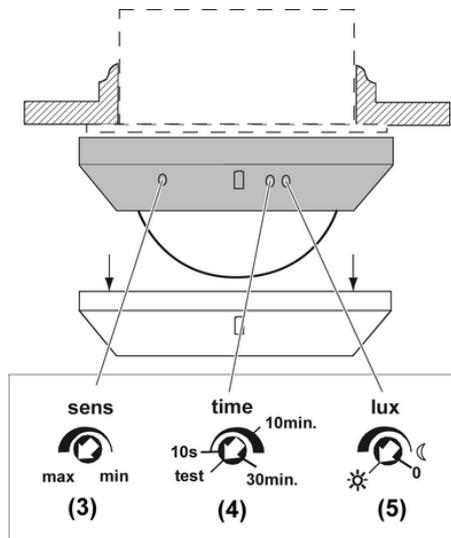

Figure 4: Test setting
- Pull off push-on cover (10)
- Pull off decor ring (9).
- Set **sens** adjuster (3) to **max**(Figure 4).
- Set **time** adjuster (4) to **test**.
- Set **lux** adjuster (5) to ☀ for brightness-independent switching.
- Turn the **time** adjuster (4) to the required position (Figure 4).
- Set **time** adjuster (4) to **test**(Figure 4).
- Turn **sens** adjuster (3) slightly in the **min** direction, because at maximum sensitivity unwanted switching may occur.
**i** To make the short-time operation independent of brightness, turn **lux** adjuster (5) to ☀.
- Turn the **lux** adjuster (5) to the required position (Figure 4).